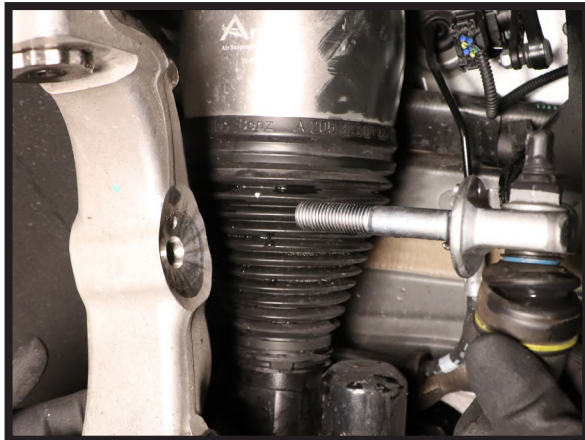

FIGURE 30
6. RECONNECT THE SWAY ARM LINKAGE. (FIGURES 30, 31)